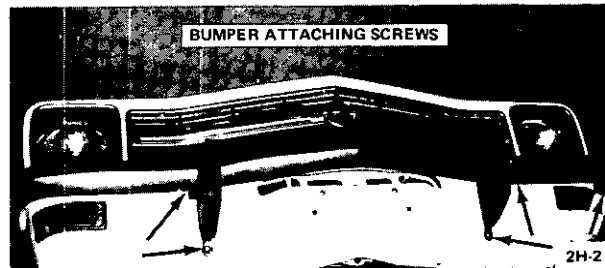

Figure 2H-2 Bumper Attaching Screws
2. From the front, secure bumper guards with attaching screws. See Figure 2H-2.
3. Install attaching bolts on left and right brackets, and on left and right inside. See Figure 2H-2.